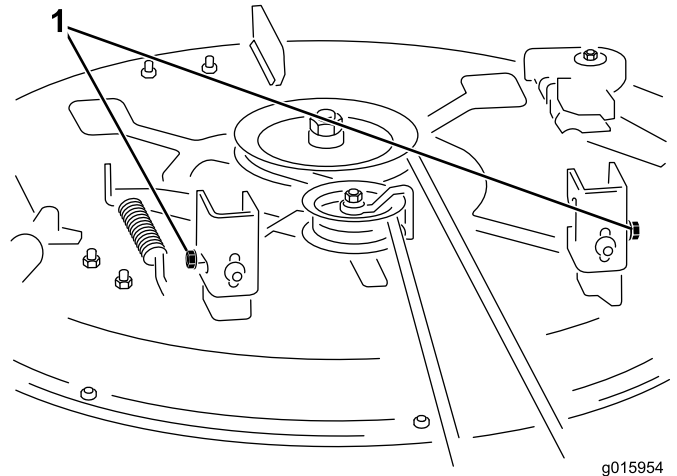

Figure 2
1. Loosen, **but do not remove**, the flange nut on the outside of each suspension bracket on the rear of the deck; see Figure 2.